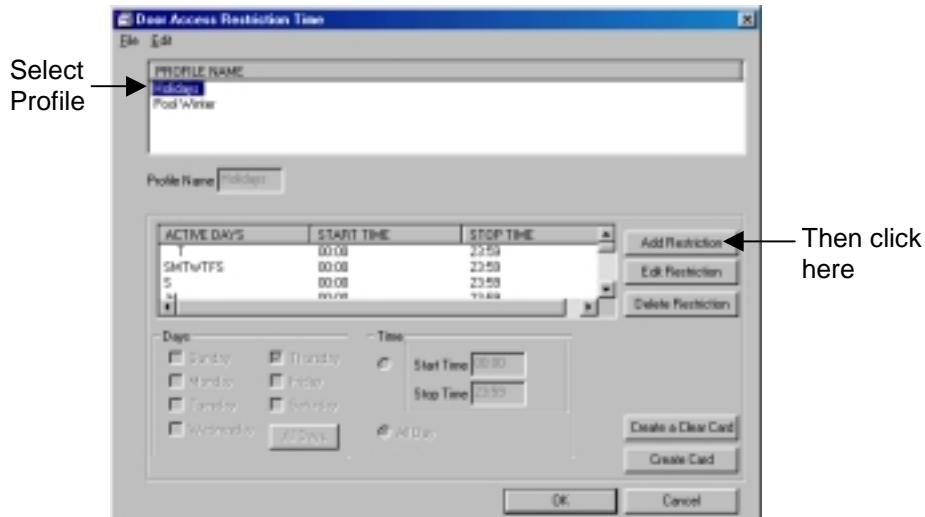

Figure 11.51 Adding a Restriction
1. In the Door Access Restriction Time window select a profile to add the restriction to (Figure 11.51).
2. Click the Add Restriction button (Figure 11.51).